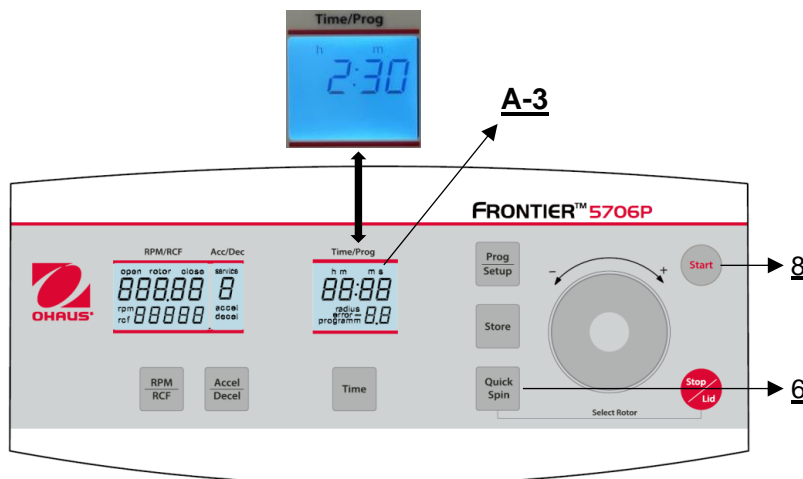

Figure 25
You can start the centrifuge either with the "Start" key (8) (see Figure 25) or the "Quick Spin" key (6). By the "Start" key (8) you can start stored runs or runs with manually pre-selected parameters.